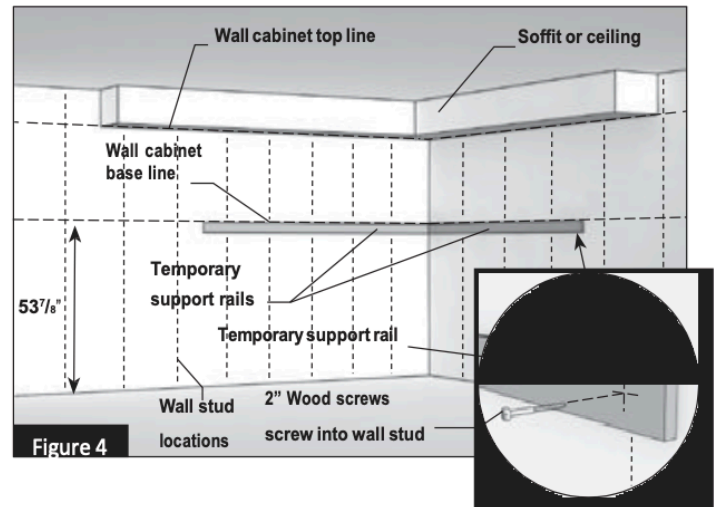

Figure 4
- 1.5 Using the 1 x 2 or 1 x 3 furring strips, screw a support rail into the studs with 2" wood screws below the baseline you have drawn for the wall cabinets. This will help support the weight of the wall cabinets, and give you something to rest the cabinets on when installing them. Make sure your support rail (sometimes called a cleat or ledger board) is level. (Figure 4)